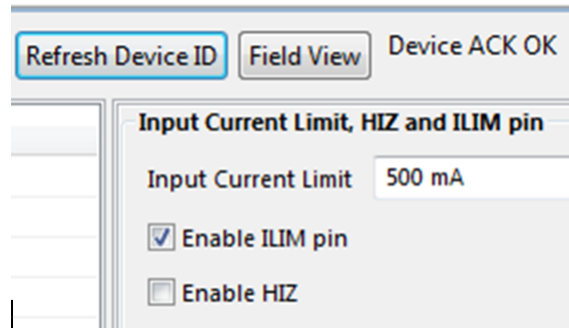

Figure 9. Select Field View
- Choose *Field View*, as shown in Figure 9. The main window of the bq2589x software is shown in Figure 10.